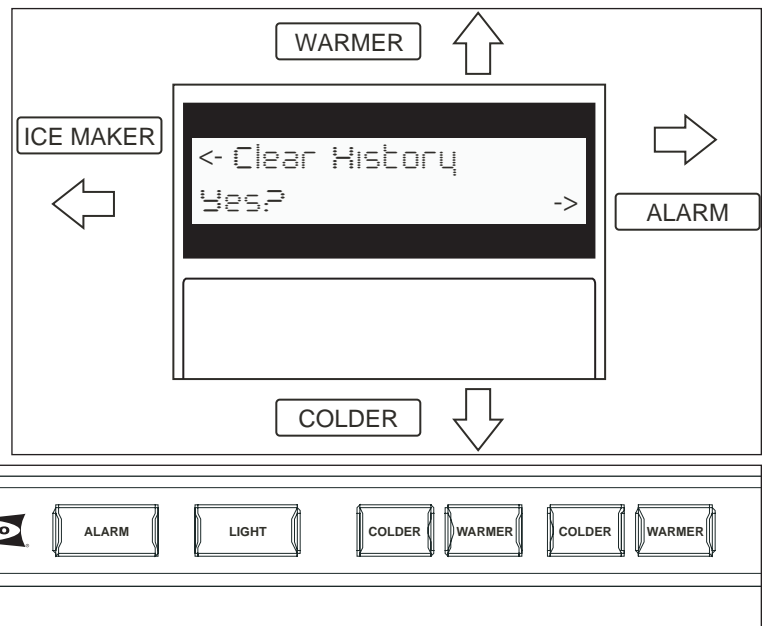

Figure 3-44. Key Strokes and Tech Display - Clearing Error History
6. Press the COLDER key once, and “Clear Error History, Yes? ->” appears (See Figure 3-44).